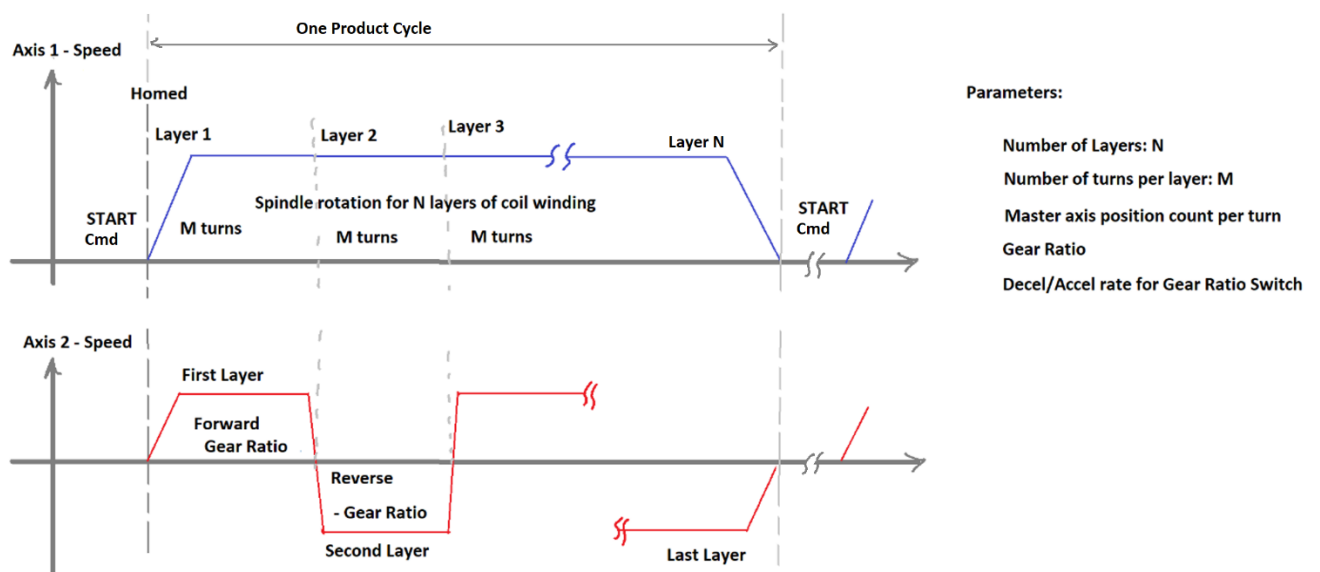

Fig. 2 – Coil winding machine automation logic for motion control: helical coil winding.
**Helical Type Coil Winding Applications:** Motion Coordination– electronic gearing (Fig. 2).